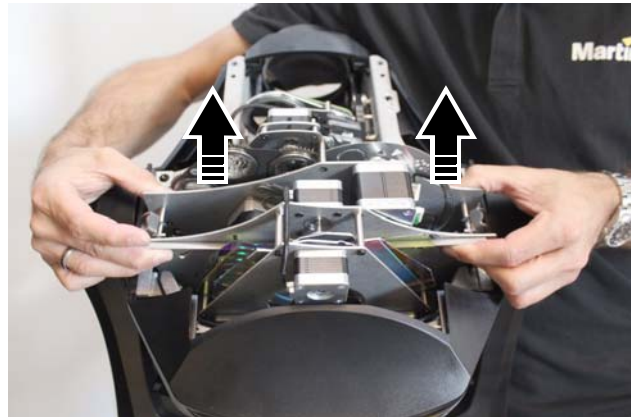

Figure 11: Removing the multi-module
3. See Figure 11. Lift the multi-module out of the head and place it on a clean work surface.